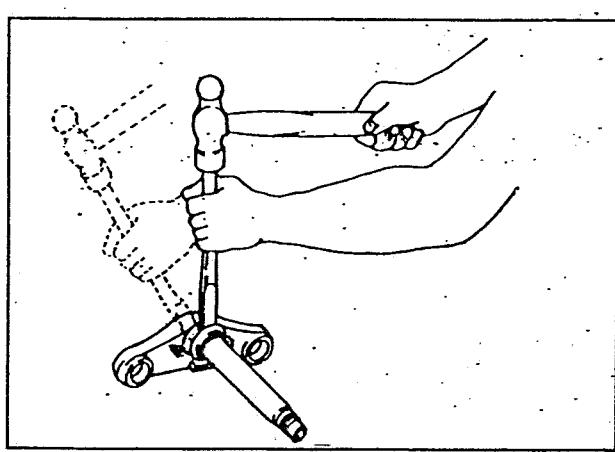

Fig 6.46
- Remove the outer race (fig 6.46)